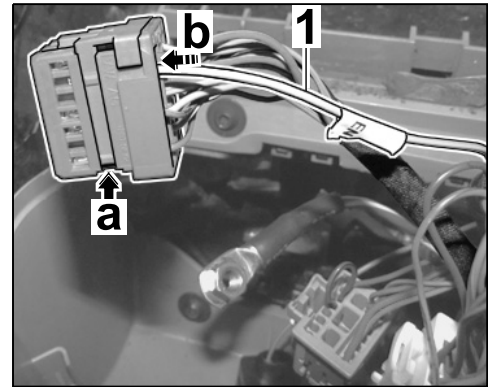

Figure 17
2.3.1 Open secondary lock ⇒ *Figure 17-a-*.
2.3.2 Insert socket contact ⇒ *Figure 17-b-* of VT/BU line into chamber 6.